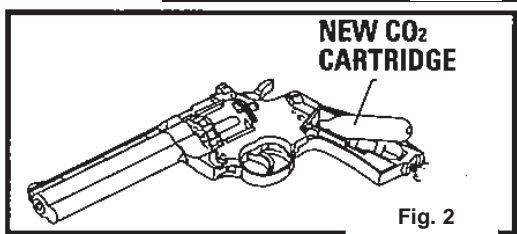

Fig. 2
- Insert a new CO₂ cartridge into the airgun with the small neck of the cartridge pointing toward the top. (Fig. 2)